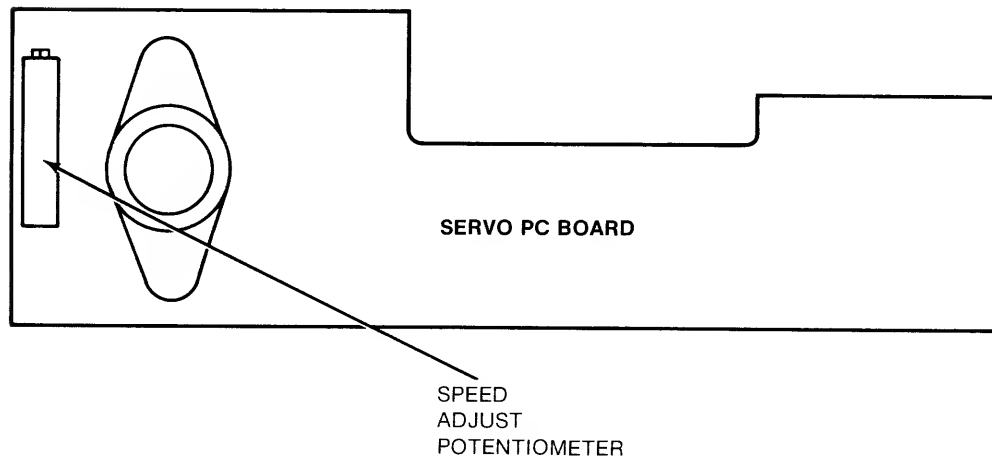

Figure 5-1. Spindle Motor Speed Adjustment
- a. Use the procedure in section V to setup Mini Drive as shown in figure 5-1.
5-8. The spindle motor speed should be re-adjusted whenever a new spindle motor or Servo Electronics board is installed. Refer to figure 5-1 while making this adjustment.
- e. Locate and adjust the potentiometer on the servo board until a 200ms $\pm 1\%$ period is observed on the counter display. This will assure a 300 RPM spindle speed. Refer to figure 5-1.
- e. Place the spindle motor adjustment tool on the bottom of the drive as shown in Figure 5-1 so that the small end of the adjustment tool rests against the motor pulley and the large end rests against the spindle pulley.